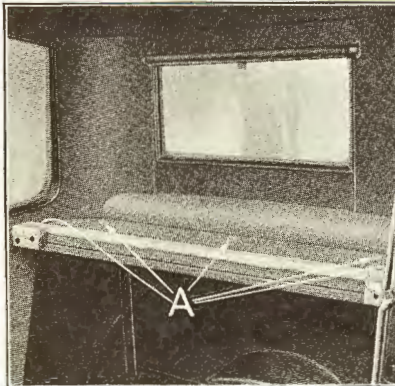

Fig. 568
1263 Run off the nuts on the ends of the five spacer board to body bolts (see "A" Fig. 568) and withdraw the bolts.
- 1275** Install spacer board in body, running down the five bolts and nuts (see "A" Fig. 568) which hold spacer board to body.